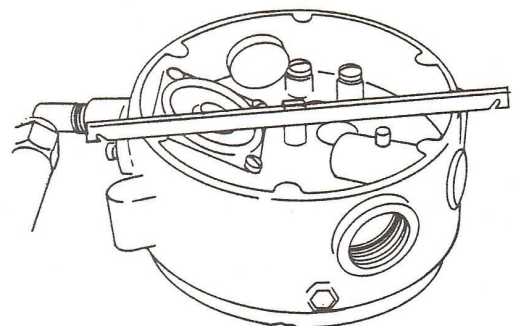

FIGURE 7. Lever Adjustment
5. Use the lever gauge to set the lever height (FIGURE 7). If no gauge is available, measure from a straight edge across the face of the casting to the closest point at the tip of the valve lever. Distance should be $5/16"$ from the valve lever to obtain the correct setting.